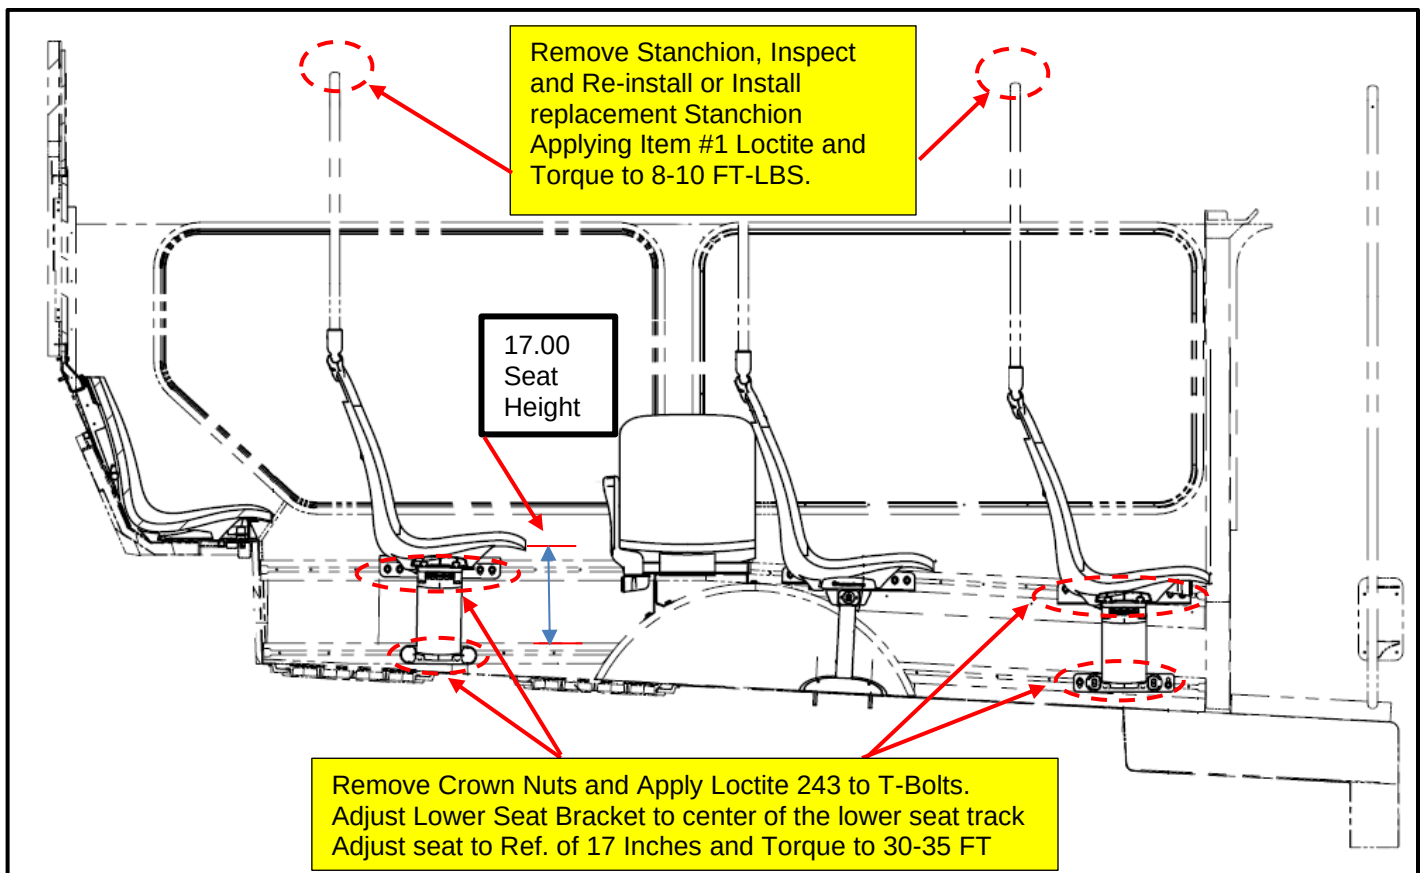

Figure 2: S/S rear double cantilever seat adjustment location reference.
9. Gain access to the street side rear double cantilever seats shown below. See Figure 2.
10. Loosen the upper and lower crown nuts on each seat identified below retaining the seats to the seat tracks. See Figure 2.
11. Remove each crown nut individually and apply one or two drops of item #1 Loctite to the threads of the T-Bolts in the seat tracks and place the crown nuts back in place hand tight where the seat can be adjusted up and down. See Figure 2.
12. Raise each lower seat bracket to the middle of the lower seat track and adjust the upper as needed to obtain a Ref. height of 17 inches from the floor to the top of the plastic seat base (not the seat cushion). See Figure 2.
13. Re-secure the crown nuts torquing to 30-35 FT LBS. See Figure 2.
14. After the seat has been adjusted remove the stanchion cup hardware and set aside for re-installation. Inspect the stanchion that it fits flush to the bottom of the seat stanchion cup. If not replace under normal warranty process. Re-install existing stanchion or replacement stanchion applying item #1 Loctite to the stanchion cup screw threads and torque to 8-10 FT-LBS. See Figure 2.